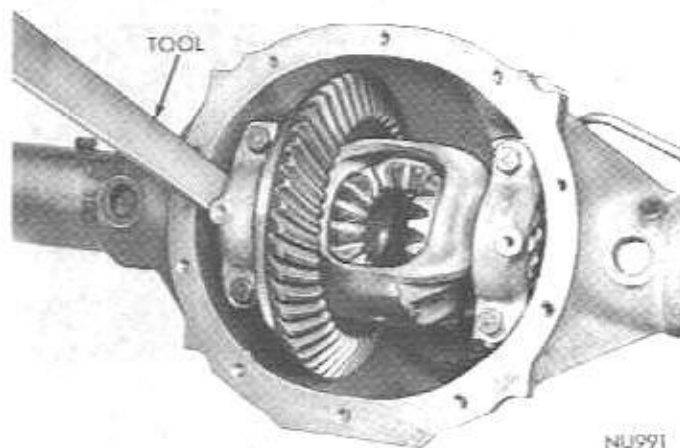

Fig. 25—Adjusting Differential Bearings to Eliminate Free Play
(1) With drive pinion bearings installed and bearing preload set, install differential case and ring gear assembly with their respective bearing caps and adjusters flush with bearing cap; otherwise you will not be able to get Tool C-4079 in position to turn bearing adjuster. Align identification marks and tighten both cap bolts on each cap to 10 inch-pounds.
(2) Using Tool C-4079 turn right adjuster in until the assembly has approximately .005" spread. Using torque wrench tighten all four (4) cap bolts to 60 foot-pounds. Back off right adjuster until all spread is removed.
(3) Turn adjusters in using Tool C-4079 until bearing free play is eliminated and so some backlash exists between the ring gear and drive pinion (Fig. 25). Rotate drive pinion and ring gear several revolutions in both directions in order to seat the bearing rollers. This is necessary before setting backlash.